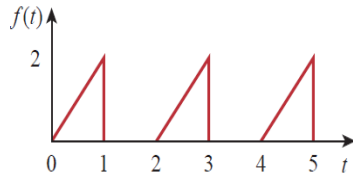

Fig.4
a) Calculate the Laplace transform of the periodic function in Fig. 4